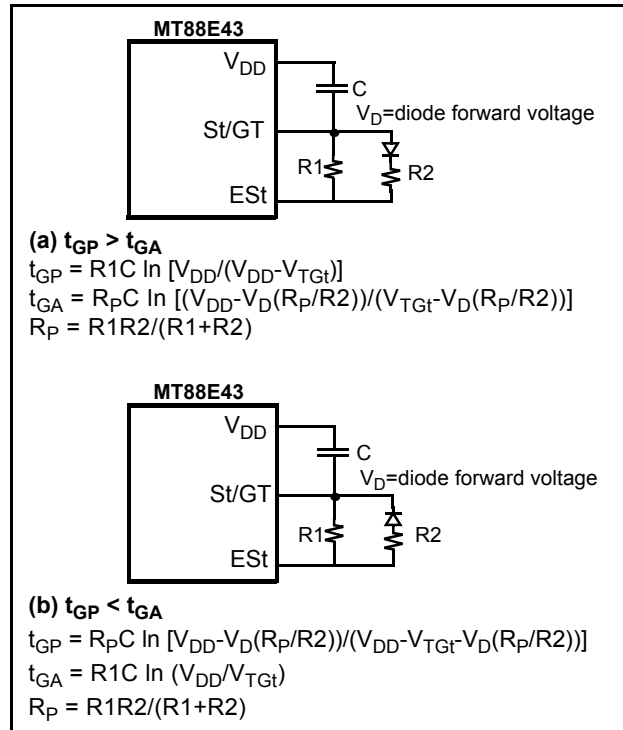
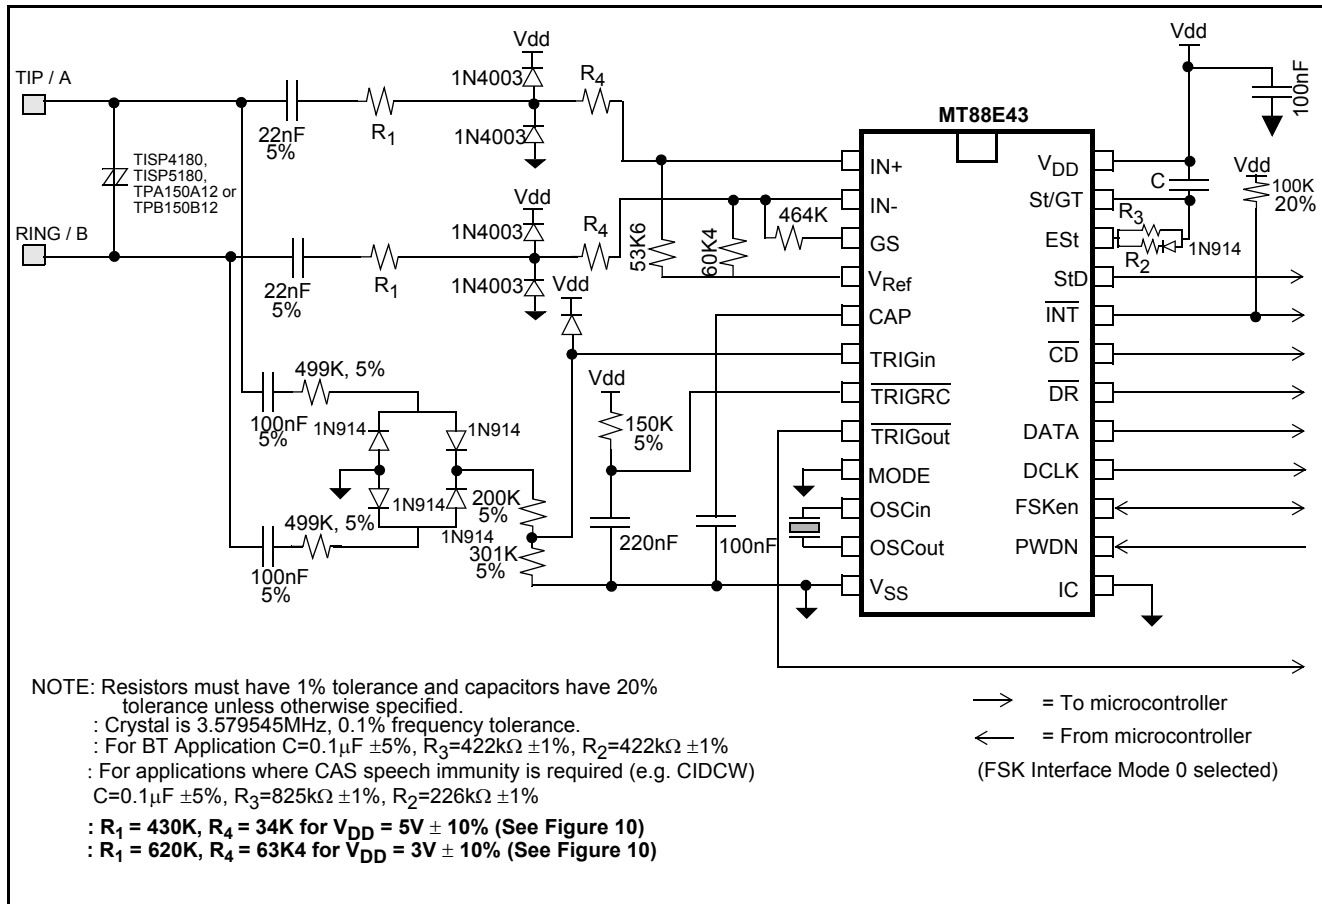
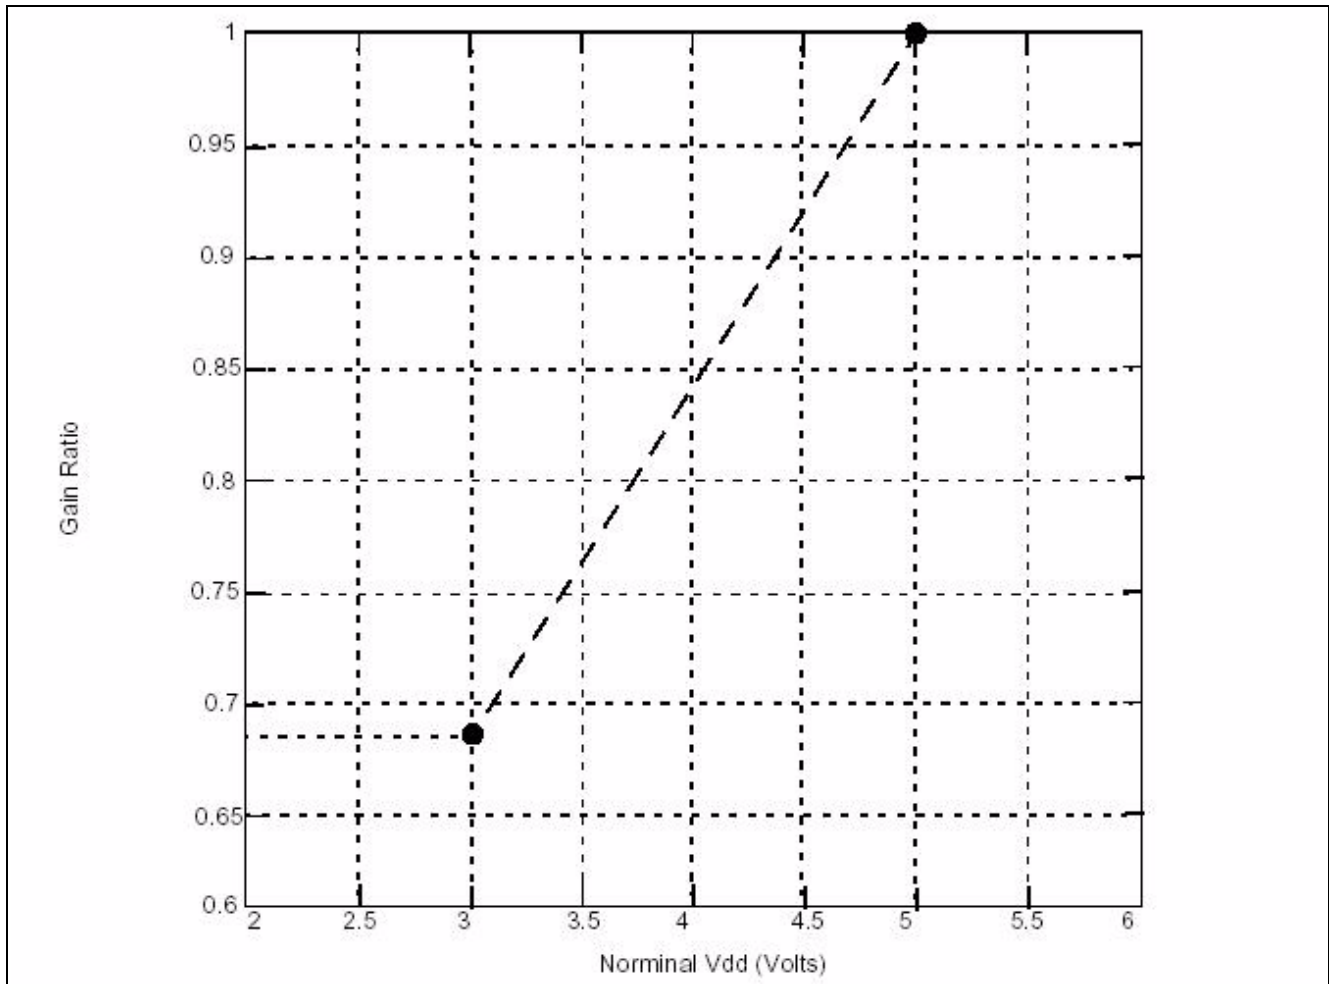

Figure 5 - Guard Time Circuits with Unequal Times
Figure 9 - Application Circuit
Figure 10 - Gain Ratio as a function of Nominal Vdd
BT specifies that the idle state tone alert signal recognition time should not be less than 20 ms when both tones are used for detection. That is, both tones must be detected together for at least 20 ms before the signal can be declared valid. This requirement can be met by setting the t_{GP} (refer to Figure 5) to at least 20 ms.
BT also specifies that the TE is required to apply a D.C. wetting pulse and an AC load 15-25 ms after the end of the alerting signal. If $t_{ABS}=t_{DA}+t_{GA}$ is 15 to 25 ms, the D.C. current wetting pulse and the A.C. load can both be applied at the falling edge of StD. The maximum t_{DA} is 8ms so t_{GA} should be 15-17 ms. Therefore, t_{GP} must be greater than t_{GA} . Figure 5(a) shows a possible implementation. The values in Figures 9 and 11 ($R2=R3=422K$, $C=0.1\mu F$) will meet the BT timing requirements.
The circuits shown in Figures 9 and 11 are application circuits for the MT88E43. As supply voltage (V_{DD}) is decreased, the threshold of the device's tone and FSK detectors will be reduced. Therefore, to meet the BT or Bellcore tone reject level requirements the gain of the internal opamp should be reduced according to the graph in Figure 10. For example when $V_{DD}=5V$ (+/- 10%), R_1 should equal 430 kΩ and R_4 should equal 34 kΩ; and if $V_{DD}=3V$ (+/- 10%) R_1 should equal 620 kΩ and R_4 should equal 63.4 kΩ. Resistors R_1 and R_4 are shown in Figures 9 and 11.
The circuit shown in Figure 9 illustrates the use of the MT88E43 in a proprietary system that doesn't need to meet FCC, DOC, and UL approvals. It should be noted that if glitches on the tip/ring interface are of sufficient amplitude, the circuit will falsely detect these signals as ringing or line reversal.
Note: In the application circuits shown in Figures 9 and 11, the Gain Ratio of MT88E43 opamp is
3. With gain setting as shown in Figure 10. Production tested at $3V \pm 10\%$, $5V \pm 10\%$.